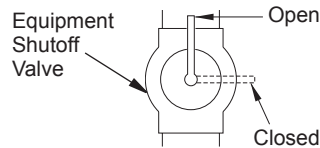

Figure 24 - Equipment Shutoff Valve
1. Close equipment shutoff valve (see Figure 24).
1. Open equipment shutoff valve (see Figure 24, page 17).